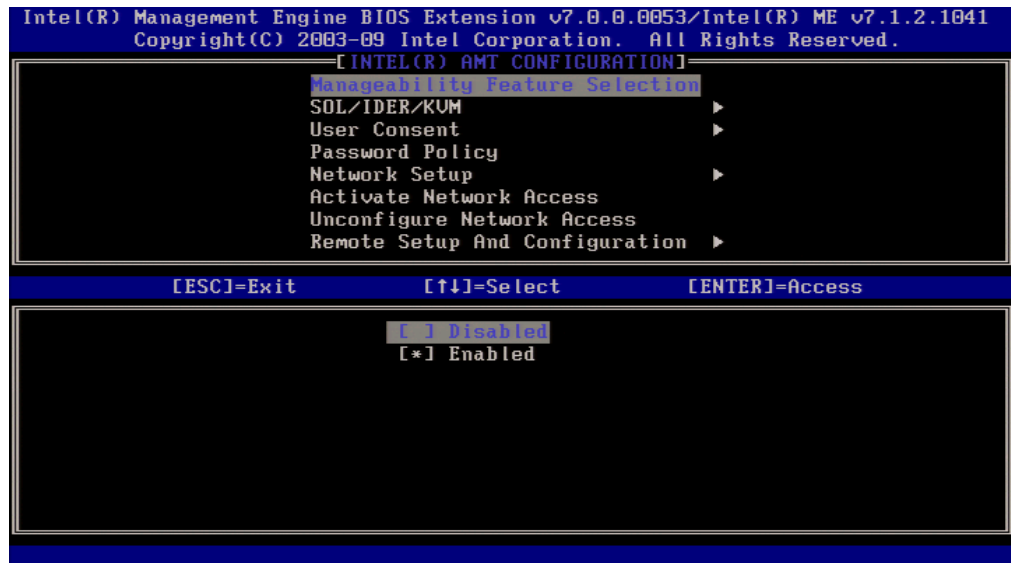

Figure 9. Intel AMT Manageability Feature Selection Screen
10. Select **Manageability Feature Selection** (Figure 9). This option allows Intel AMT to be enabled or disabled. By default, HP Workstations are set to enable Intel AMT. Note that selecting the **Disabled** option will disable all remote management capabilities and will also un-provision any AMT settings.